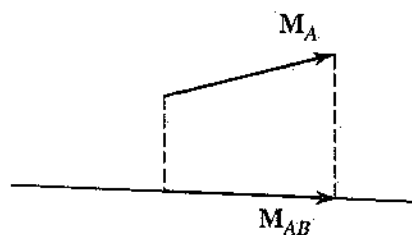

Figure 11.14
2. The moment of a force about an axis is the projection of the moment along that axis, shown in Figure 11.14. For projection along line AB the equations are as follows: